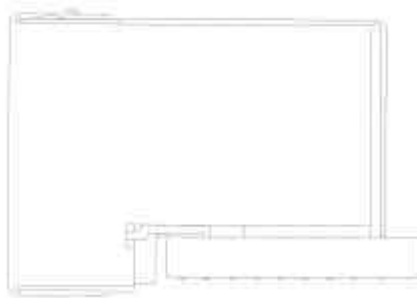

Figure 16 -- Proper Receptacle (header) assembly
- Visually assure that the plastic standoffs on the bottom of the assembly are seated within 0.13 mm of flush to the PCB but not crushed (see Figure 16). A larger gap beneath the standoffs may indicate that the receptacle (header) is not seated parallel to the board. This can cause receptacle (header) misalignment with adjacent Millipacs® HM components.